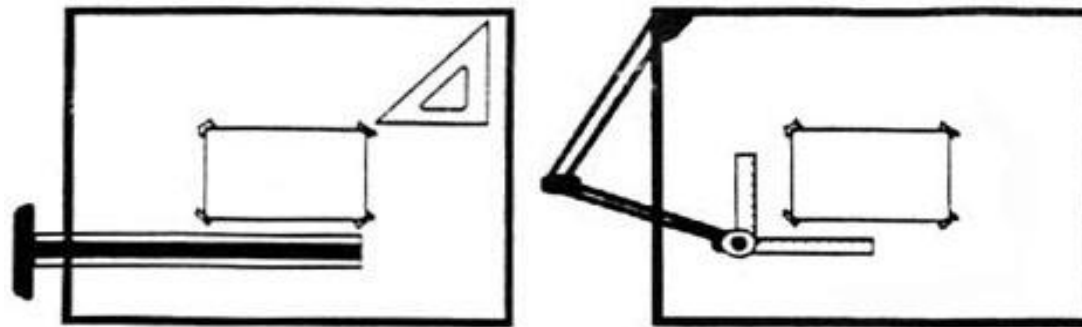

Figure 12 - Drawing Tools
- To prepare a drawing, one can use manual drafting instruments (figure 12) or computer-aided drafting or design, or CAD. The basic drawing standards and conventions are the same regardless of what design tool you use to make the drawings. In learning drafting, we will approach it from the perspective of manual drafting. If the drawing is made without either instruments or CAD, it is called a freehand sketch.